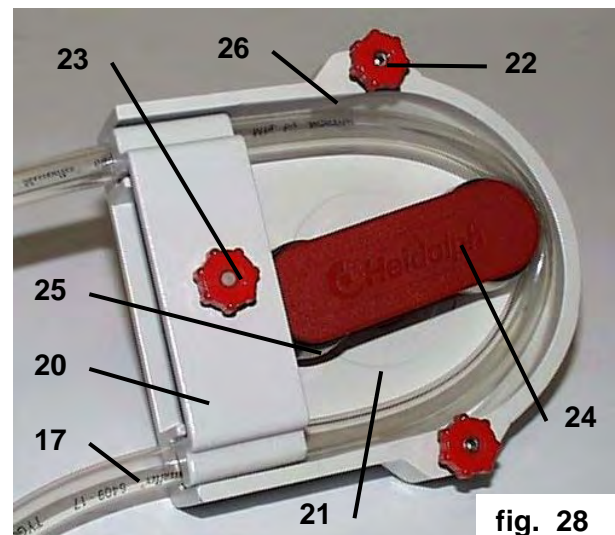

fig. 28
3.5. SP Standard (fig. 28)
- Loosen knurled nuts (22 & 23) to remove clamping lever (20) and cover (21). Seat hose (17) in hose bed (180 degrees loop), rotate rotor (24) by hand until hose (17) is pulled into the gap between the rollers (25) and hose bed (26).
- Check hose being squeezed properly by rotating the rotor (24) through several revolutions.
- Install clamp lever (20) and cover (21); hold both hose ends tight while tightening knurled nut (23).
- Holding hose ends tight over the rollers (25) will make sure both rollers (25) are centered over the hose (17) which is an essential requirement for proper feeding action and standstill sealing.